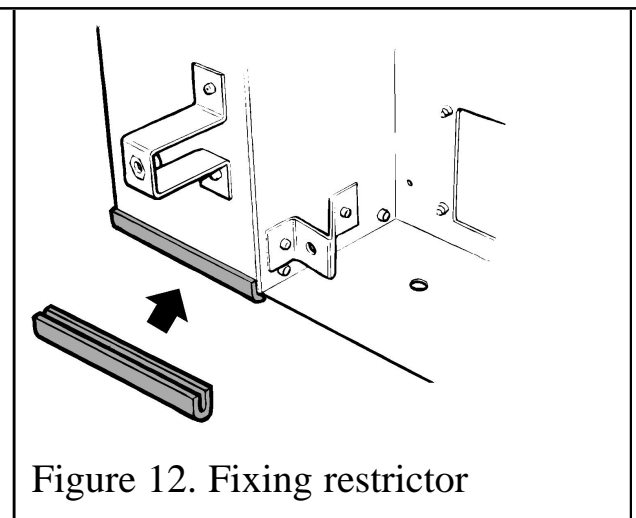

Figure 12. Fixing restrictor
6. Fit the two small 'U' section seals to the bottom edges of the convection box side flanges (See figure 12).